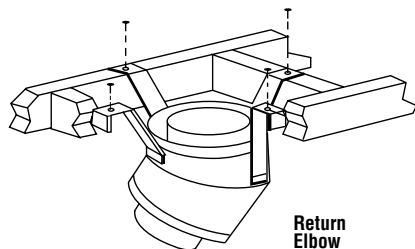

Figure 40
Step 5. Secure support straps to framing members by nailing under tension in shear (Figure 40).